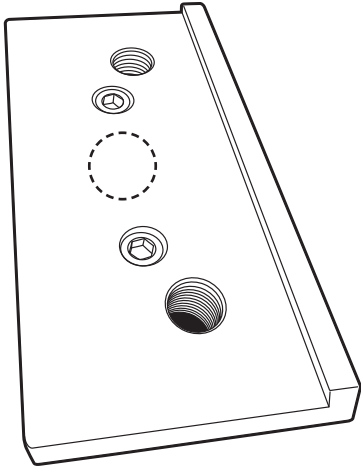

FIGURE 2—Top view of the FBP with the socket head cap screws. The dashed line indicates the area to place the dab of grease.
1. Insert the (2) 10-32 x 3/8" SHCS P/N 40510 into the FBP P/N 35521 and thread on the (2) T-nuts P/N 30561 (see Figures 2 and 3). Put a dab of grease on the top of the FBP shown with a dashed line in Figure 2. We recommend our Super Lube Grease (P/N 7550).
9. Mount the second top jaw (P/N 35522) onto the MBP with two 82° screws using the same method and precautions as we did with the fixed jaw assembly. Grease or anti-seize is highly recommended on the 82° screws of this assembly. A dot of grease or anti-seize, on the MBP where shown by the dashed line circle on the picture above is also recommended. Be sure that the grease is clean. Refer to Figure 2 for grease placement on the MBP.